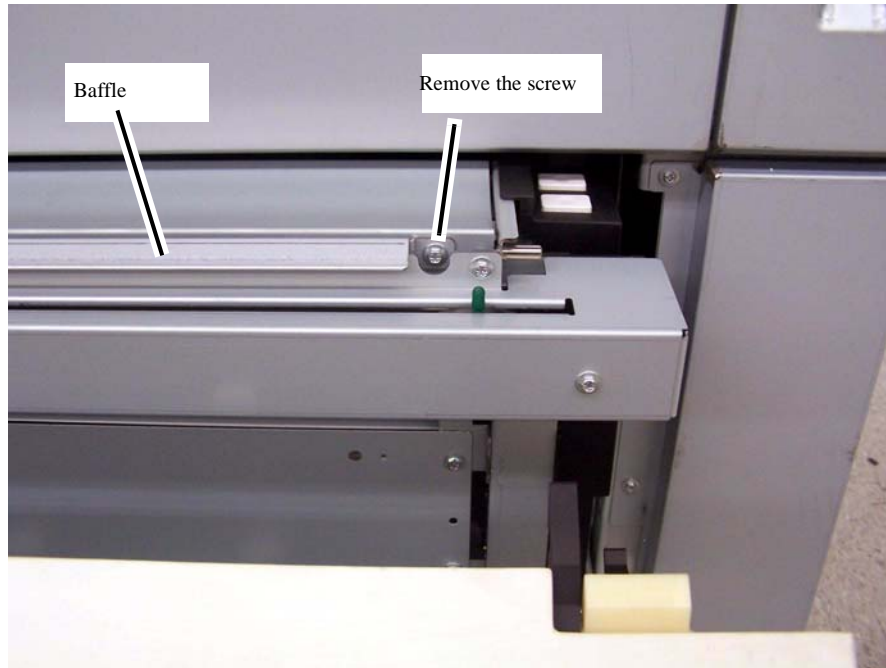

Figure 1 Removing the right Baffle screw
- a. Remove the screw at the right end of the Baffle (Figure 1).